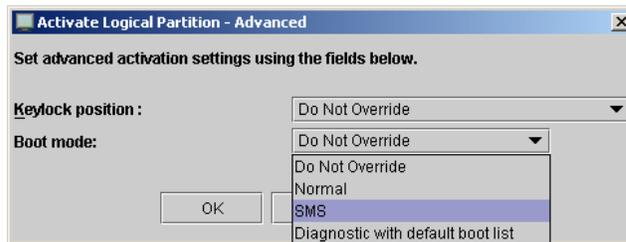

Figure 3-24 Selecting SMS boot mode
4. Under the Boot Mode drop-down list, choose **SMS**, as shown in Figure 3-24, and then click **OK**.